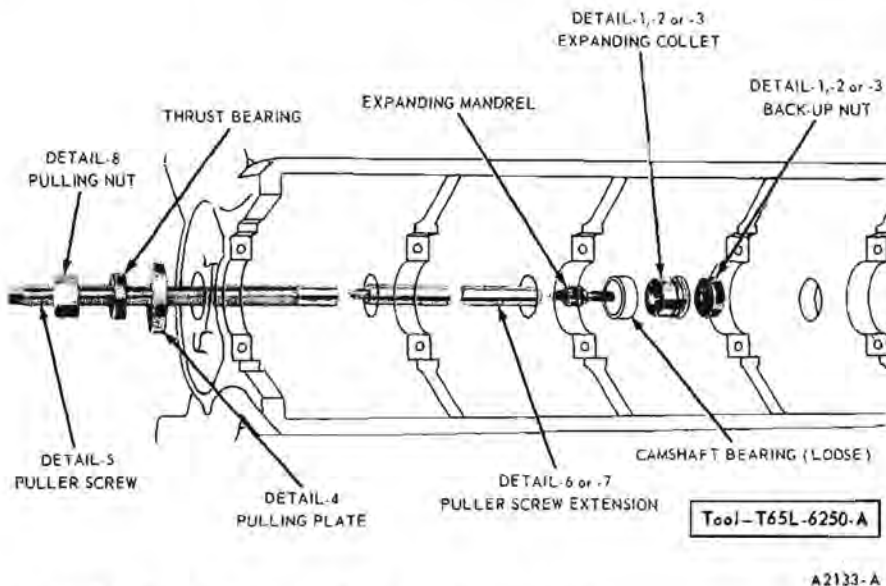

FIG. 59—Typical Camshaft Bearing Replacement
2. Remove the camshaft bearings with the tool shown in Fig. 59.
6. Position the new bearings at the bearing bores, and press them in place with the tool shown in Fig. 59. Be sure to center the pulling plate and puller screw to avoid damage to the bearing. **Failure to use the**
23. Remove the camshaft bearings (Fig. 59).